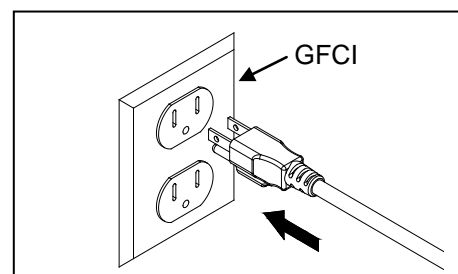

Fig. 4
4. Place the pump into the water and connect to a proper power source. Fig. 4